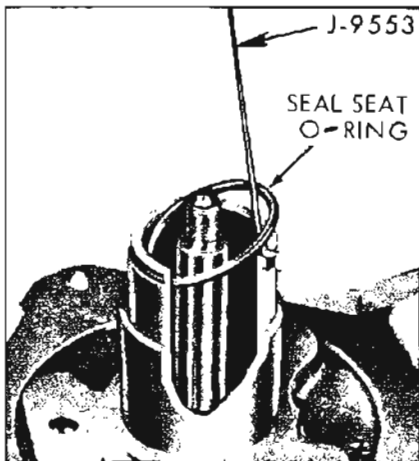

Figure 11-56—Removing Seal Seat O-Ring
8. Take out seal seat "O" ring (see Figure 11-56) from inside hub of front head using "O" ring Remover (J-9553).